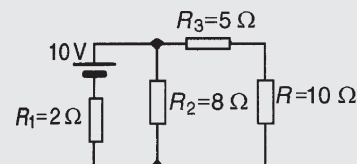

Figure 13.37
**Problem 7.** Use Thévenin's theorem to find the current flowing in the  $10 \Omega$  resistor for the circuit shown in Fig. 13.37.
Hence the current flowing in the  $10\Omega$  resistor of Fig. 13.37 is **0.482 A**